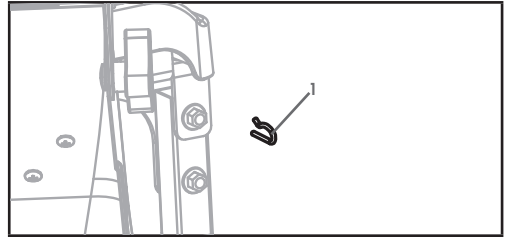

Figure 22B
1. Pull out the R pin (1) (Fig. 22B).